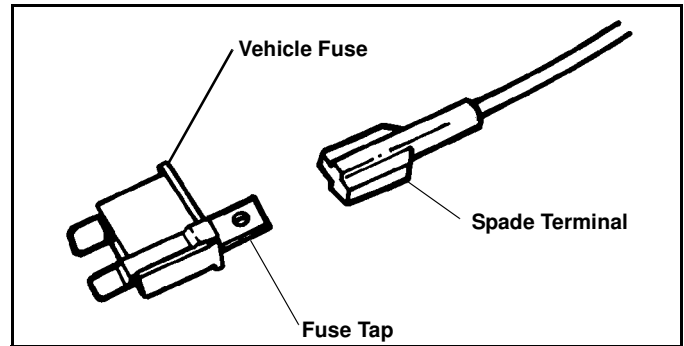

Figure 1-11
13. Using a test probe, determine the fused "Dead/OFF" side of the fuse. Remove the fuse and attach the A.T.O. fuse tap to that side of the fuse. (See Figure 1-11)